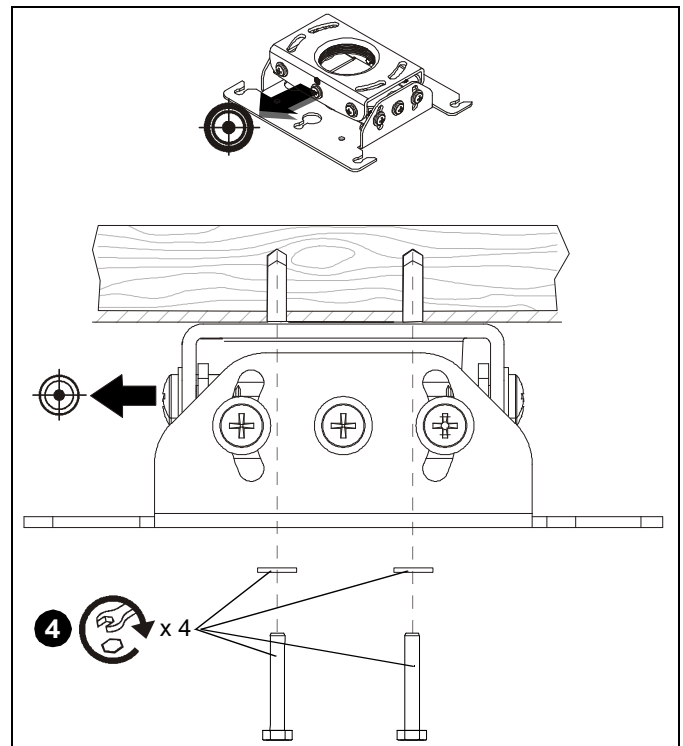

**Figure 4**
1. Using the RPE as a guide, mark four mounting hole locations. (See Figure 4)
2. Drill four 1/8" x 1-1/2" deep (minimum depth) pilot holes. (See Figure 4)